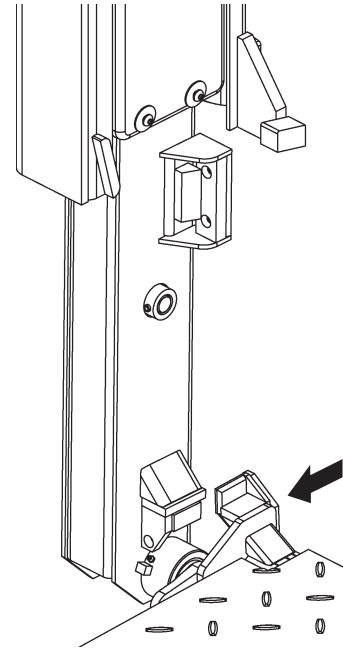

FIG. 9-1
17. Use a forklift or equivalent lifting device to lift platform and line it up with attaching points on the LH runner (**FIG. 9-1**) and RH runner.